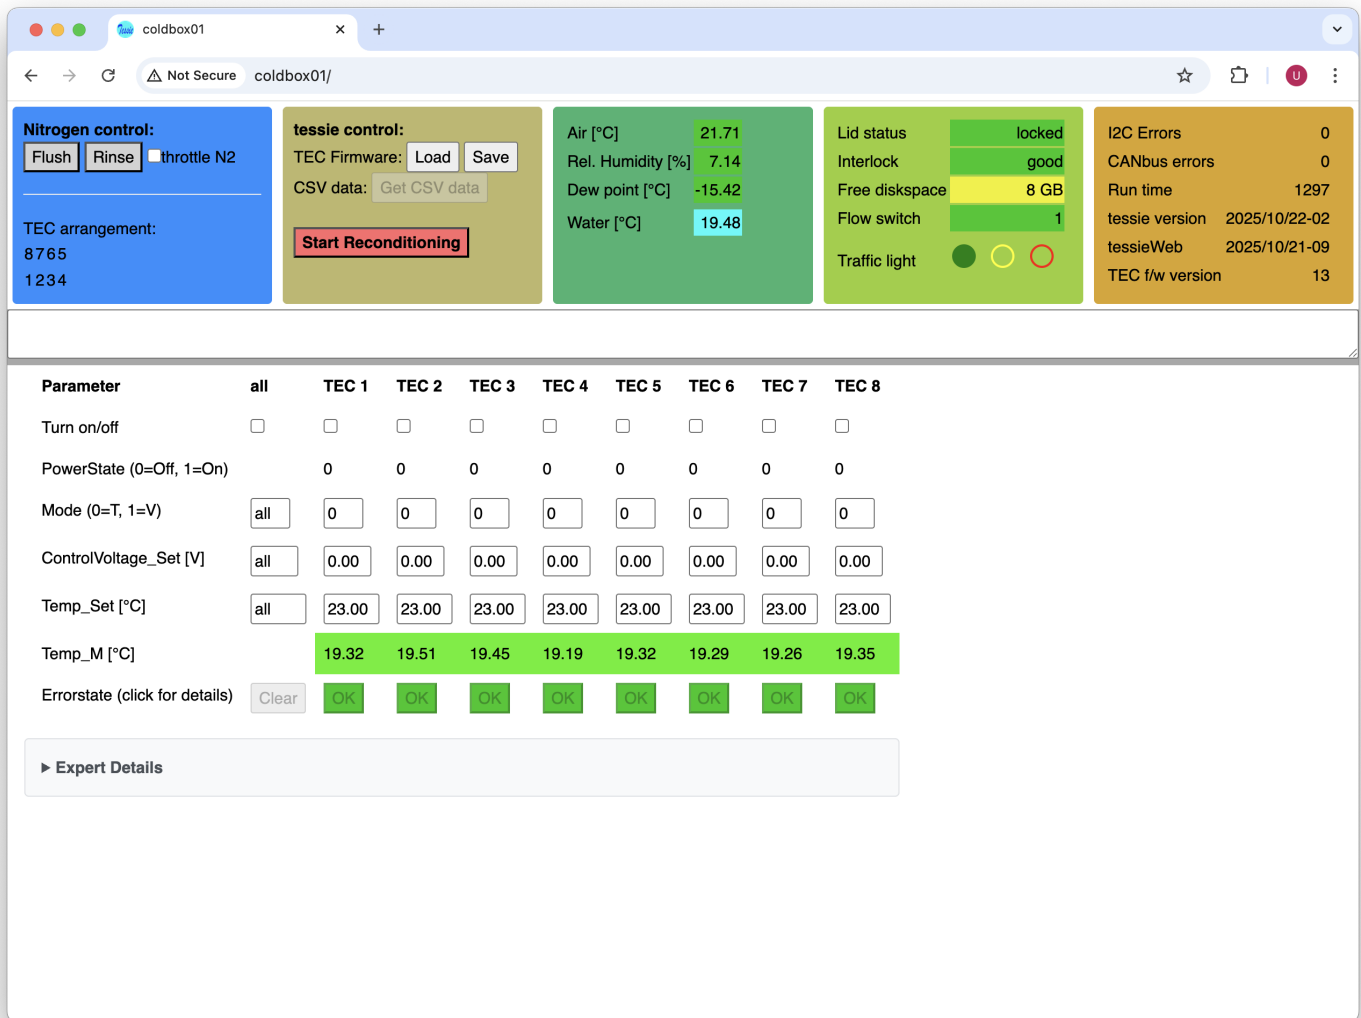

Figure 9: Web graphical interface to **tessie**. The top right brown-yellow box will turn red in case the connection to **tessieWeb** is interrupted.
The normal manual way to interact with `tessie` is through a webbrowser. Point your favorite browser to `http://coldbox03`, cf. Fig 9.
Figure 8: The GUI appearing on the Raspberry Pi touch screen. The interaction possibilities are limited to (1) controlling the N2 flow with **Rinse** and **Flush**, (2) stop operations with "STOP ALL" which will turn off all TECs, turn on maximal N2 flow by opening both the rinse and flush valves, and breaking the HV/LV interlocks, (3) resetting the interlocks, (4) "Quit"-ing the program, and (5) sounding the test alarm. The **Rinse** and **Flush** buttons will have a greenish background color when these valves are open and N2 is flowing. Their font is white in case N2 throttling is active and black in case it is not. For full control of *tessie* you should use the web interface shown in Fig. 9.